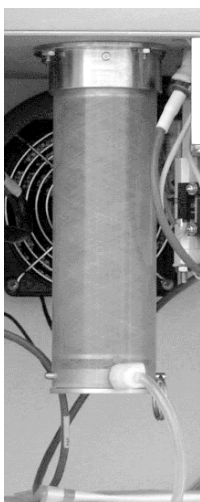

Figure Z.4.0.1
- a. Remove the air hose to the left supply magazine, if necessary. Press the locking clip and pull. See Figure Z.4.0.1.